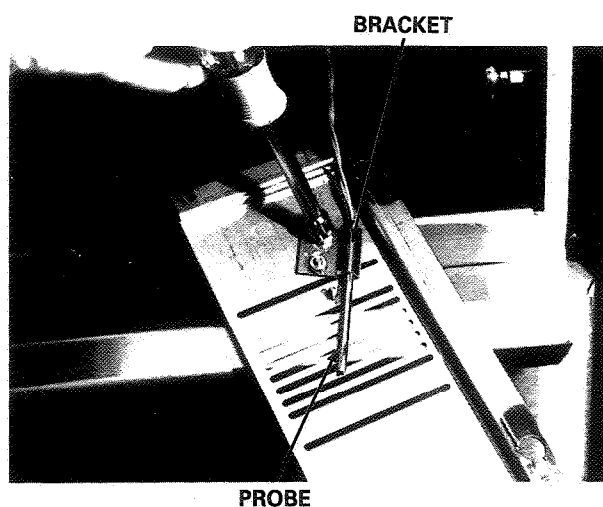

Figure 21
4. Loosen 2 nuts mounting temperature sensor to bracket and remove from bracket. (See Figure 21)